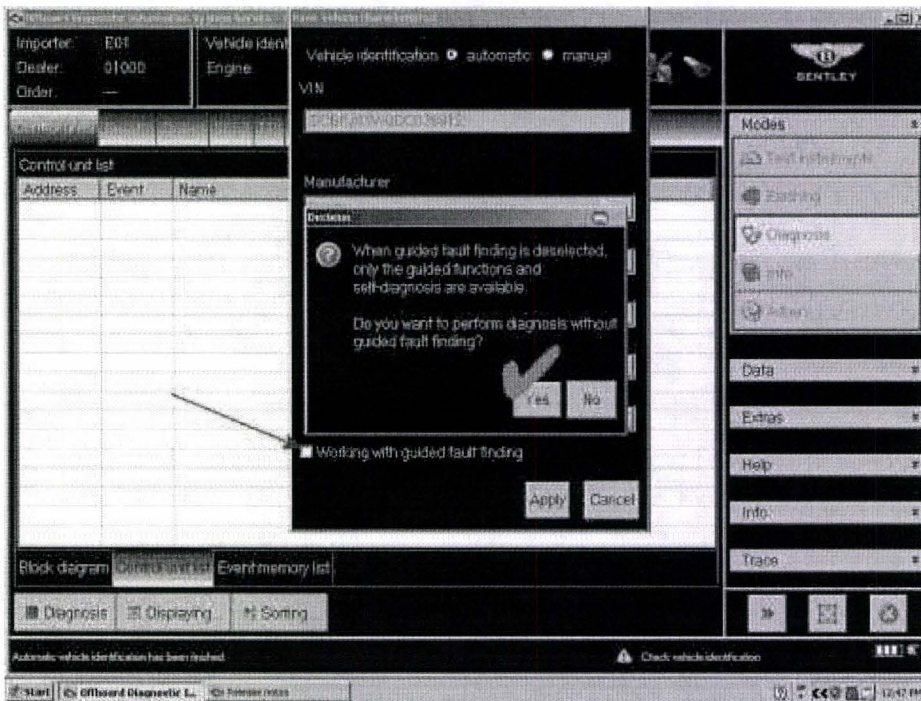

Figure 1
3. De select *Working with guided fault finding* (see Figure 1)